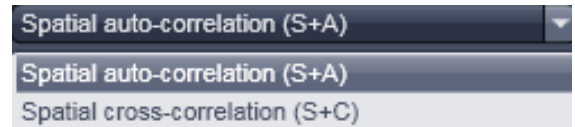

Fig. 123 Correlation pull down menu
- The correlation to be computed can be selected from the **Correlation** pull down menu (Fig. 123). For one channel recordings, only **Spatial auto-correlation (S+A)** is available, for a two channel recording in addition **Spatial cross-correlation (S+C)**.